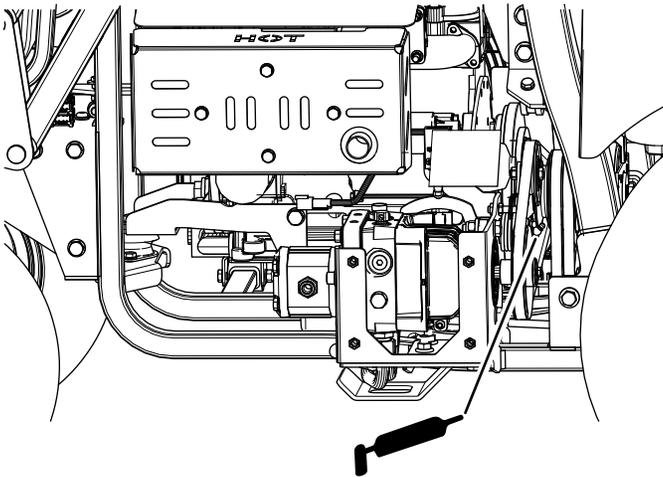

Figure 41
- Remove the cover and grease PTO idler-pulley bracket (Figure 41)